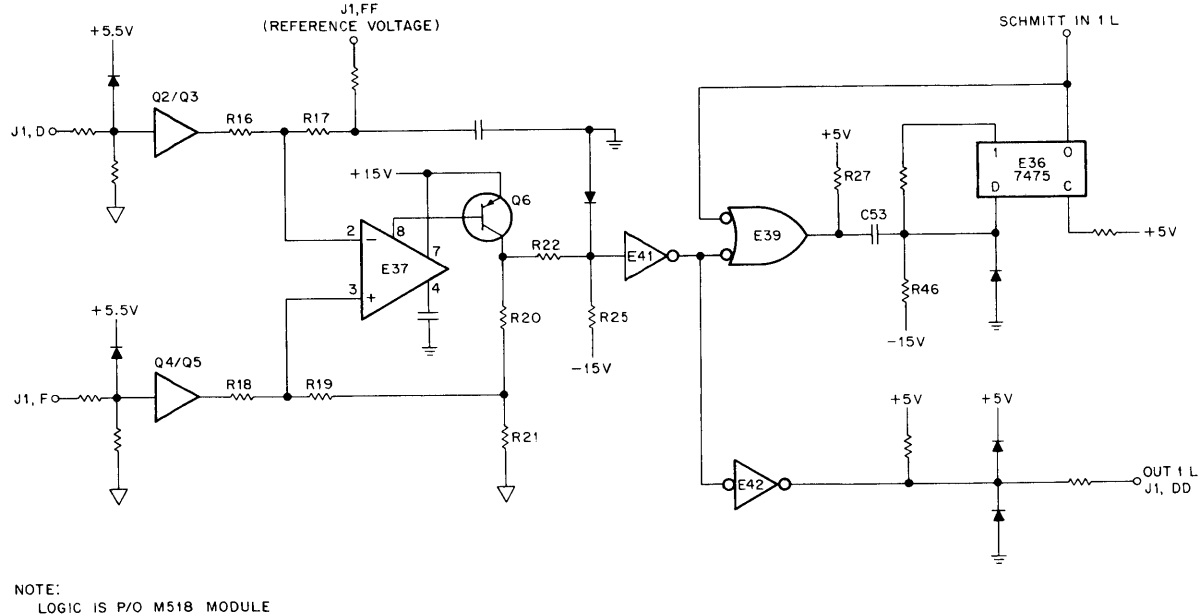

Figure 4-63 Schmitt Trigger Logic
**4.6.2.9 Schmitt Trigger Logic** – The Schmitt trigger logic for channel 1 is shown in Figure 4-63. The logic for channels 2 and 3 is identical to that shown for channel 1. The logic consists of a Schmitt trigger circuit, the components to the left of inverter E41, and the 2-output pulse-shaping circuits to the right of E41.